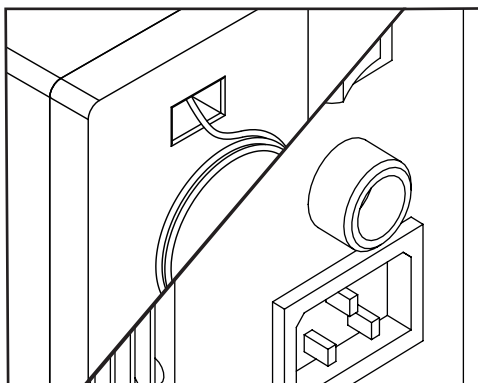

Fig 1
1. Connect the assembled CO2 bottle and regulator to the CO2 inlet on the rear panel (60L) using a 6mm pipe or side panel (30L) using the 4mm pipe (see Fig 1)